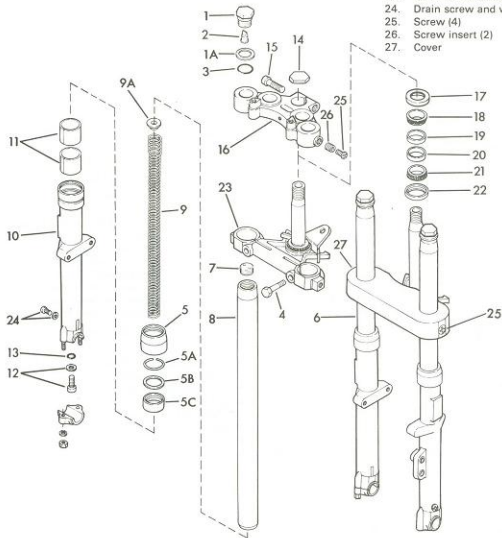

Figure 2-39. FX Front Fork - Exploded View
INSPECTION PROCEDURE (Figure 2-39)
See Figure 2-39. Examine fork tube (8) for scoring and badly worn sliding surface. Inspect fork slider bushings (11) in fork slider (10) for wear and scoring. Insert tube (8) in fork slider (10), and work up and down. If tube has appreciable play in slider, replace slider bushings. See "Fork Slider Bushings."
REPLACING BREATHER VALVE - 1972 AND EARLIER (Figure 2-39)
REMOVING FORK SIDES (Figure 2-39)
REMOVING FORK STEM AND BRACKET ASSEMBLY FROM STEERING HEAD (Figure 2-39)
To replace bearing races (19 and 20, Figure 2-39), knock head cup from steering head using a suitable drift. Press new bearing race in new head cup and then press assembly into frame head.
DISASSEMBLING FORK SIDE - 1975 AND EARLIER (Figure 2-39)
ASSEMBLING FRONT FORK SIDES (Figures 2-39, 2-41)
INSTALLING STEM AND BRACKET ASSEMBLY, FORK SIDES AND ADJUSTING STEERING HEAD BEARINGS (Figure 2-39)